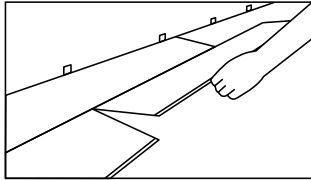
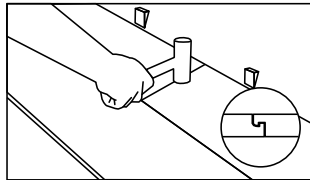

Fig. 5
Fig. 6
3. Angle the long edge of the next board in the second row to lock into the first row (fig. 5) while positioning the short end of the board over the groove from the previous board. Lock and fold, then tap into place using a rubber mallet. (fig. 6).